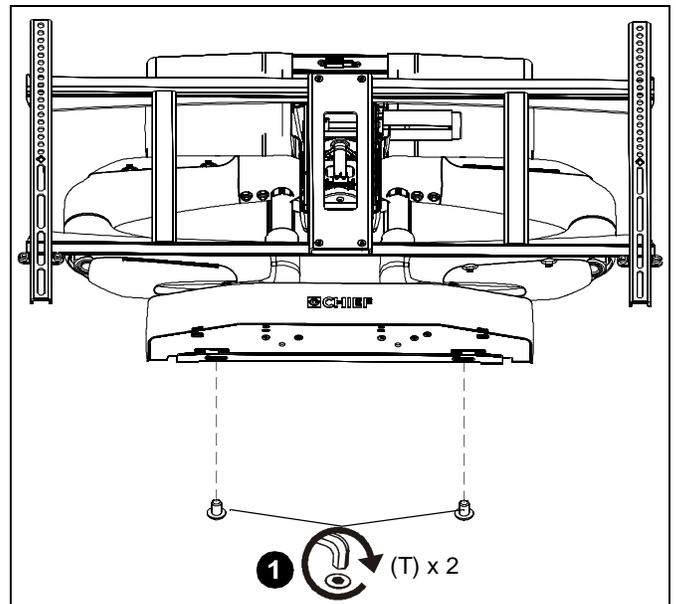

Figure 36
- Use Velcro disc (shipped with IR receiver) to attach the IR sensor (BB) in a convenient location for your installation.
- Make final attachment of PXR to wall mounting bracket using two 8-32 x 3/8" buttonhead cap screws (T). (See Figure 36)